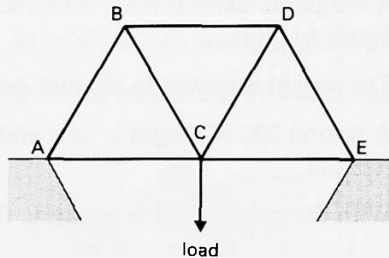

Figure A114
- (Harder) Figure A114 shows a simple (Warren) girder bridge.